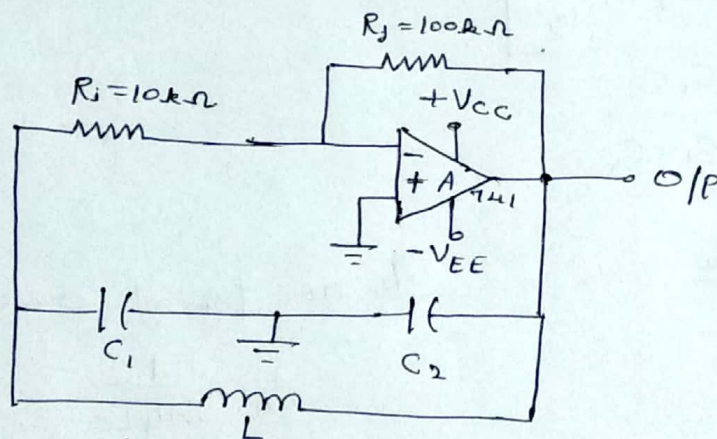

Fig 5: Op-amp Colpitts Oscillator
* An Op-amp Colpitts Oscillator circuit is shown in Fig 5.